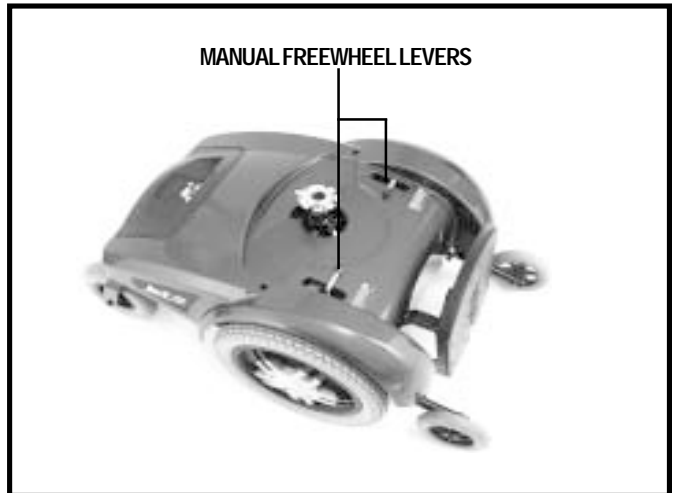

Figure 8. Drive Engaged
2. Turn the manual freewheel levers inward, to engage the drive motors. See figure 8.